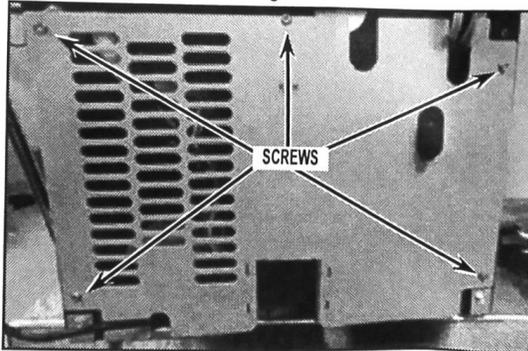

FIGURE 1
3. Remove the five (5) screws holding the unit cover on the back of the product. See Figure 1.